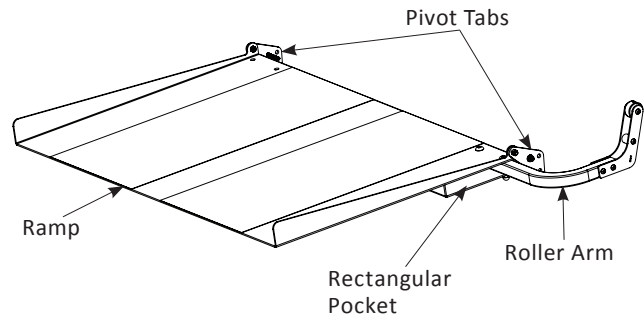

Figure 4-11
2. Assemble the ramp roller arm into the rectangular pocket of the ramp with the provided hardware. *See Figure 4-11.*